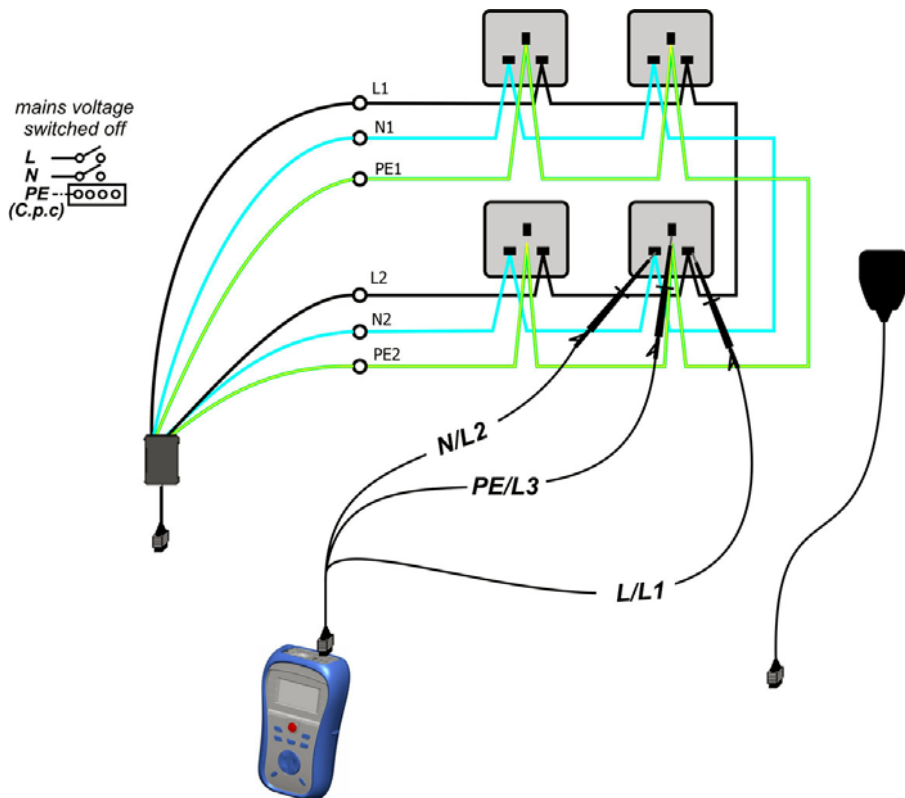

Figure 5.17: Step 2 - measurement of resistances  $R_1+R_2$ ,  $R_1+R_N$
- ❑ **Easy switch** must stay connected to the final ring circuit. The electrical installation must be de-energized during the test (see figure 5.17).